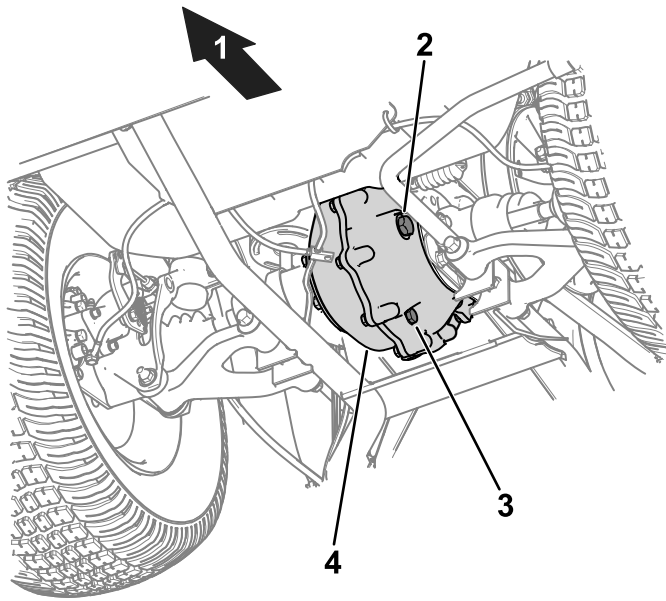

Figure 48
- Remove the fill plug on the transaxle (Figure 48).
- If the fluid level is low, remove the fill plug and add the specified fluid until it runs out of the hole (Figure 48).
1. Align a drain pan under the drain plug (Figure 48).
2. Remove the fill plug (Figure 48).
3. Remove the drain plug, and allow the fluid to drain completely (Figure 48).